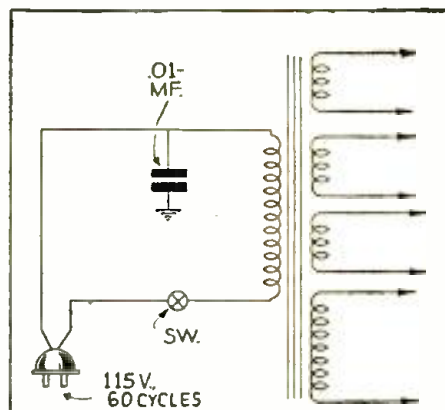

Fig. 3. Line condenser to stop circuit oscillation.
The usual recommended cure for this trouble is that of cleaning the rotor contacts of the variable gang condensers and running a pig-tail lead from the rotor to the chassis of the receiver. I tried this and found that it improved reception only slightly. All the parts of the receiver were found to be in good condition. Finally I connected a 0.01-mf. 600-volt paper condenser (Fig. 3), between the terminal of the power transformer to which the powerline cord is attached and the chassis. The trouble disappeared. On some receivers a larger capacity is needed. This can only be determined by experimenting with different values. (This procedure will also, many times, remove hum—if trouble of this type should be encountered.—Editor)
See Fig. 3. All American commercial broadcast stations may be considered as standards of frequency because they must maintain their carrier frequency within plus or minus 50 cycles of their assigned frequency, and these broadcast stations, therefore, may be used to calibrate test oscillators by the zero-beat method.
Fig. 3. Zero-beat method of oscillator calibration. (1) Couple oscillator output loosely to antenna lead. Tune receiver to a broadcast station of known frequency. (2) Tune oscillator to approximate broadcast signal frequency, and adjust oscillator carefully for zero-difference frequency (zero beat). (3) Read oscillator dial setting and note correction, i.e., mark reading, 5 kc. high or 8 kc. low, on correction chart.